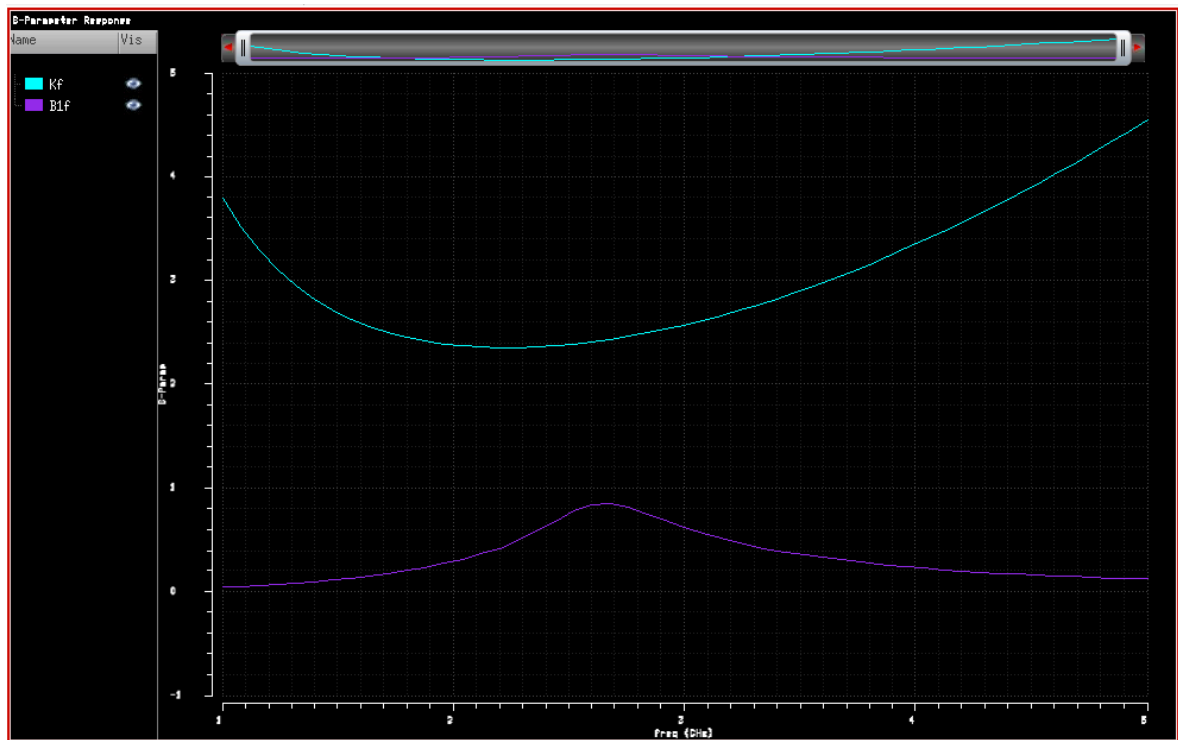

Fig. 6. K_f and Δ
- The results are shown in Fig. 6.
The Stern stability factor K and Δ can be plotted in two ways. The stability curves for K and Δ vs. frequency, Fig. 6, or plotted as load stability circle (LSB) and source stability circle (SSB) in a Smith chart.